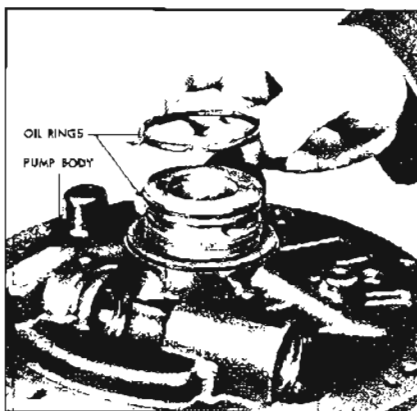

Figure 5-595
7. Install the previously selected front unit selective thrust washer (fiber) over the pump cover delivery sleeve. See Figure 5-595.